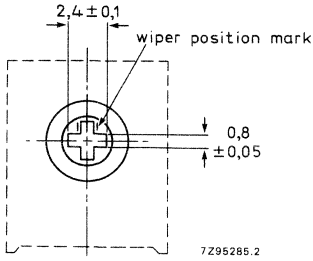

Fig. 3 Cross slot, non-insulated wiper for vertical and horizontal versions; straight pins only.
* For details of available slots (cross, hexagonal, insulated or non-insulated wiper), see Figs 3, 4 and 5.